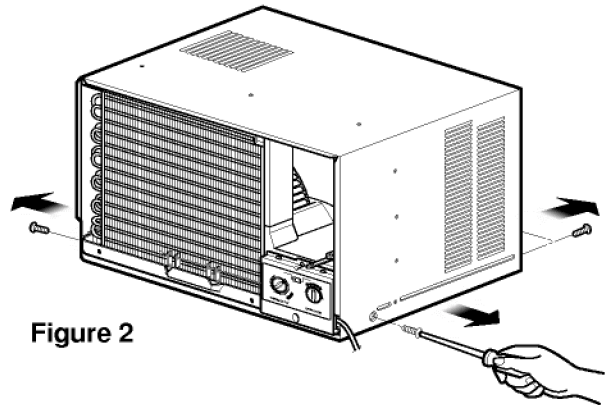

Figure 2
3. Pull the BASE PAN forward. (See figure 2)